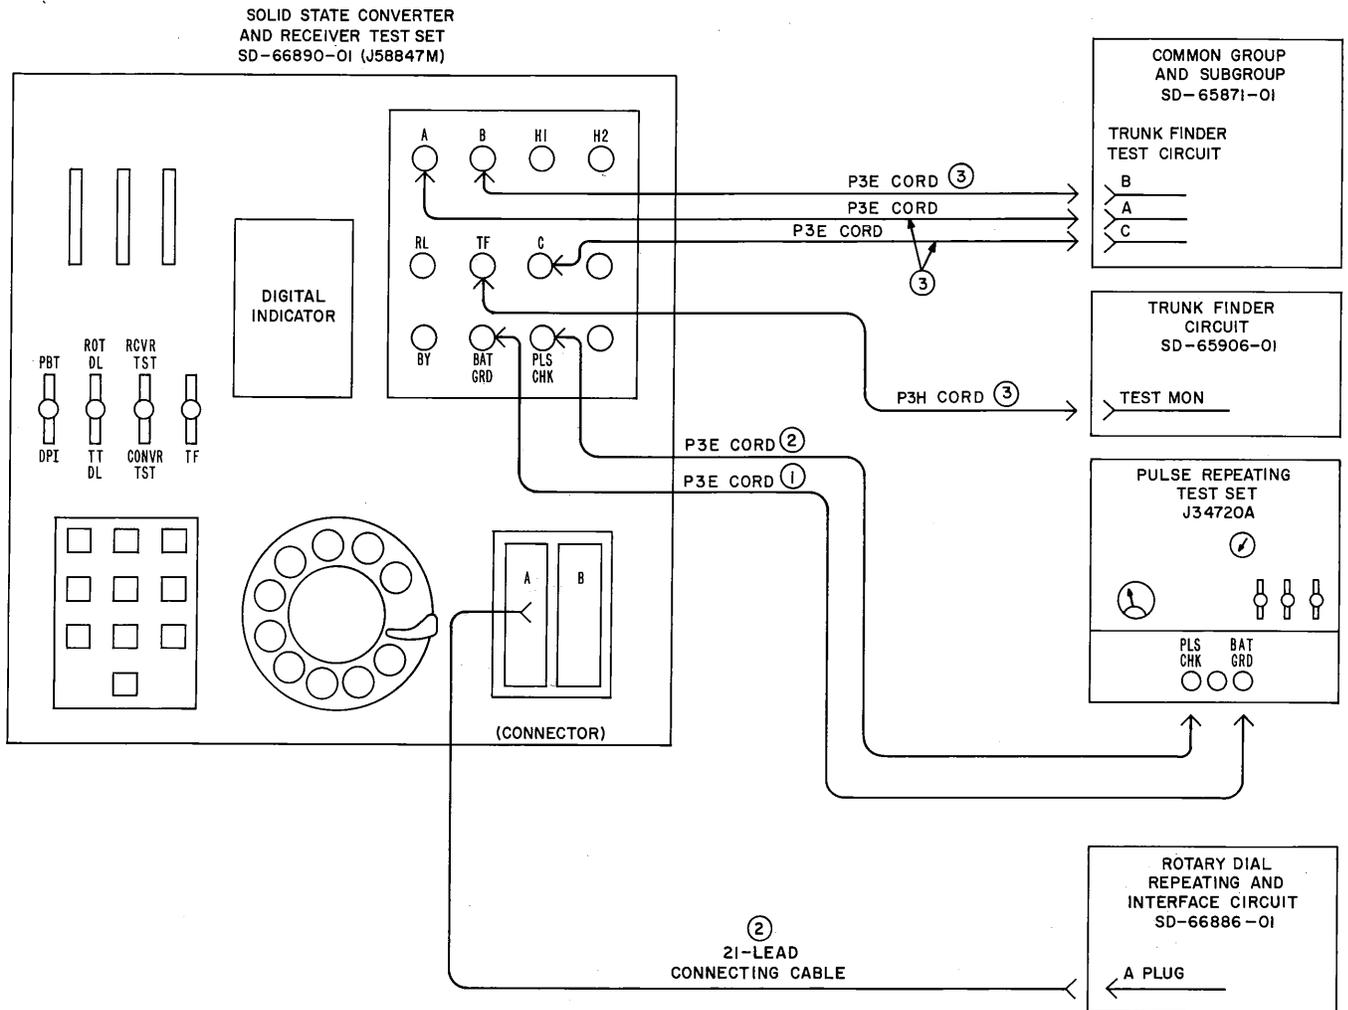

Fig. 2 — Test E Connections
Establish connection designated ① as shown in Figure 2.
6 Establish connections designated ② as shown in Figure 2.
11	Establish connections designated ③ as shown in Figure 2.